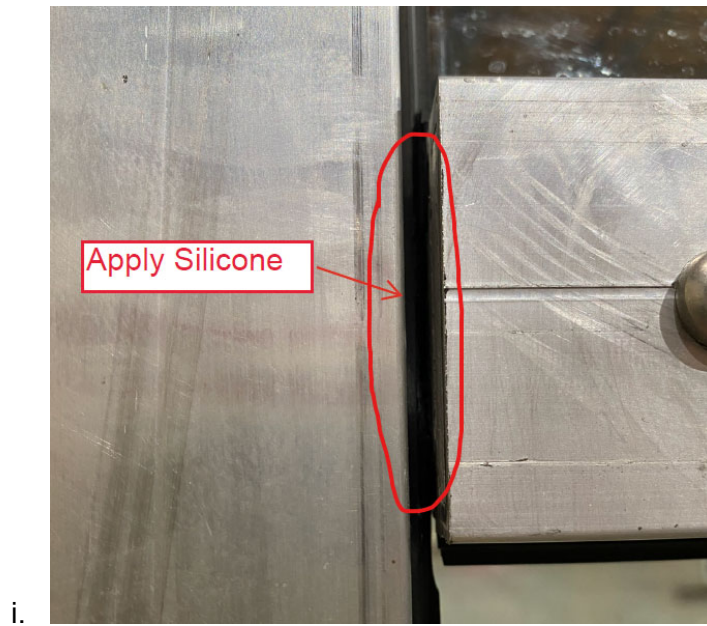

Figure 15
- a. For exterior applications, add silicone to fill gap between vertical and horizontal pressure plates. See Figure 15